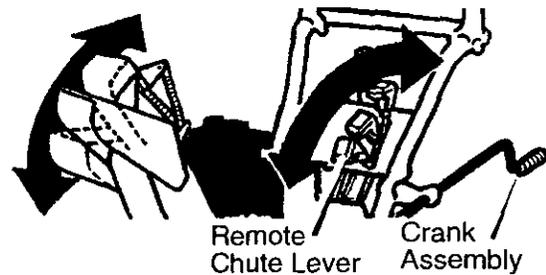

Figure 17
1. Turn the **crank assembly** to set the direction of the snow throwing. See Figure 17.